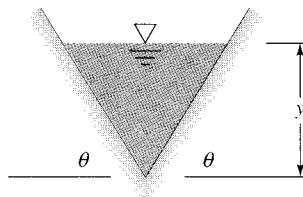

Fig. P10.41
**10.41** Determine the most efficient value of  $\theta$  for the vee-shaped channel of Fig. P10.41.